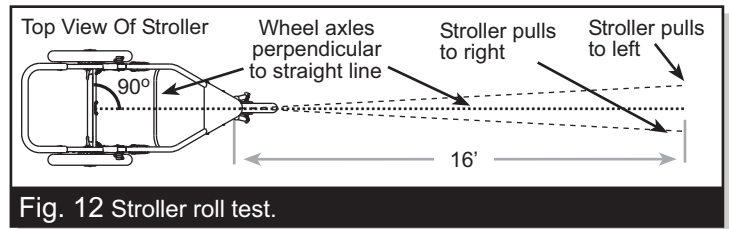

Fig. 12 Stroller roll test.
*Note: Tracking adjustment can only be performed with the stroller fork locked out (Jog Mode). Roll test the stroller as described below. It is recommended you have someone assist with this task in order to catch and return the stroller. Fig. 12 illustrates the roll test process.*
d. If the stroller consistently pulls to the left or right when pushed straight, proceed with the steps below until tracking is satisfactory. Fig. 12 illustrates how to interpret the results.